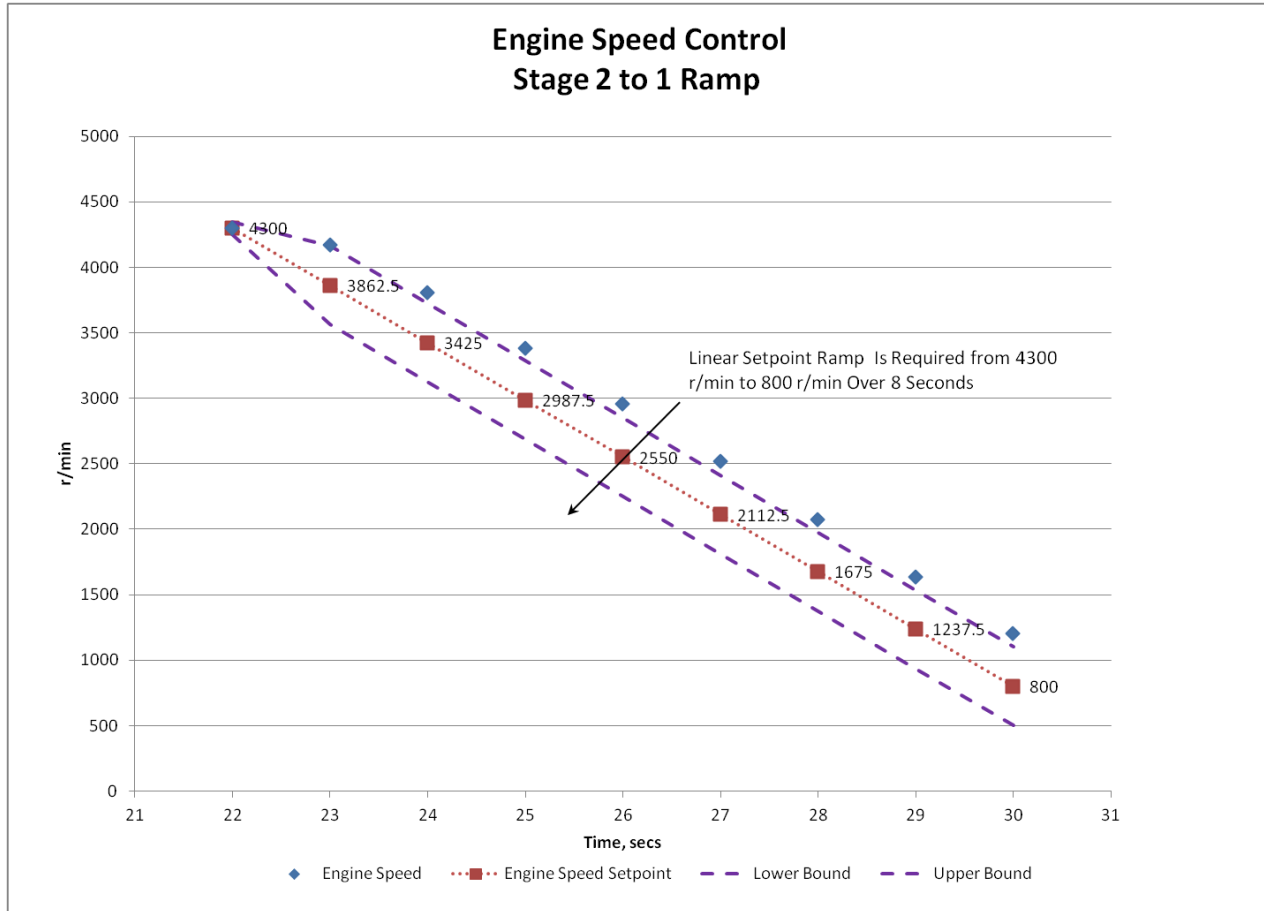

Figure 14. Stage 2 to Stage 1 Ramp of Engine Speed
3. Once the engine start procedure completes, immediately enter into the cyclic test operation specified in Table 4, below. Use a linear ramp for engine speed, differential coolant temperature, oil gallery temperature, and exhaust pressure to transition between stages. Examples of acceptable variations in engine speed during stage 1, stage 2, and transition ramps are shown in Figures 14 thru 17. Speed and load controllers should be monitored periodically during the test to ensure the engine speed and engine torque are within limits by the first second of each cycle for both Stage 1 and Stage 2. Log data continuously at 1Hz.